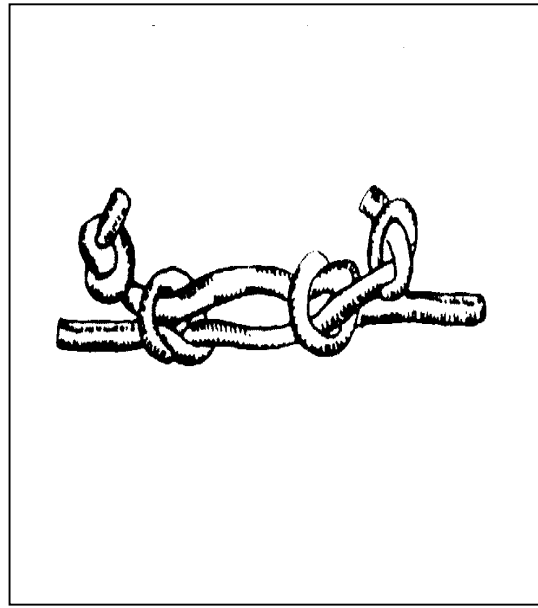

Figure 11-10. Tied cut
l. **Tied Cut.** The tied cut (Figure 11-10) is used to join two cotton, braided lines.